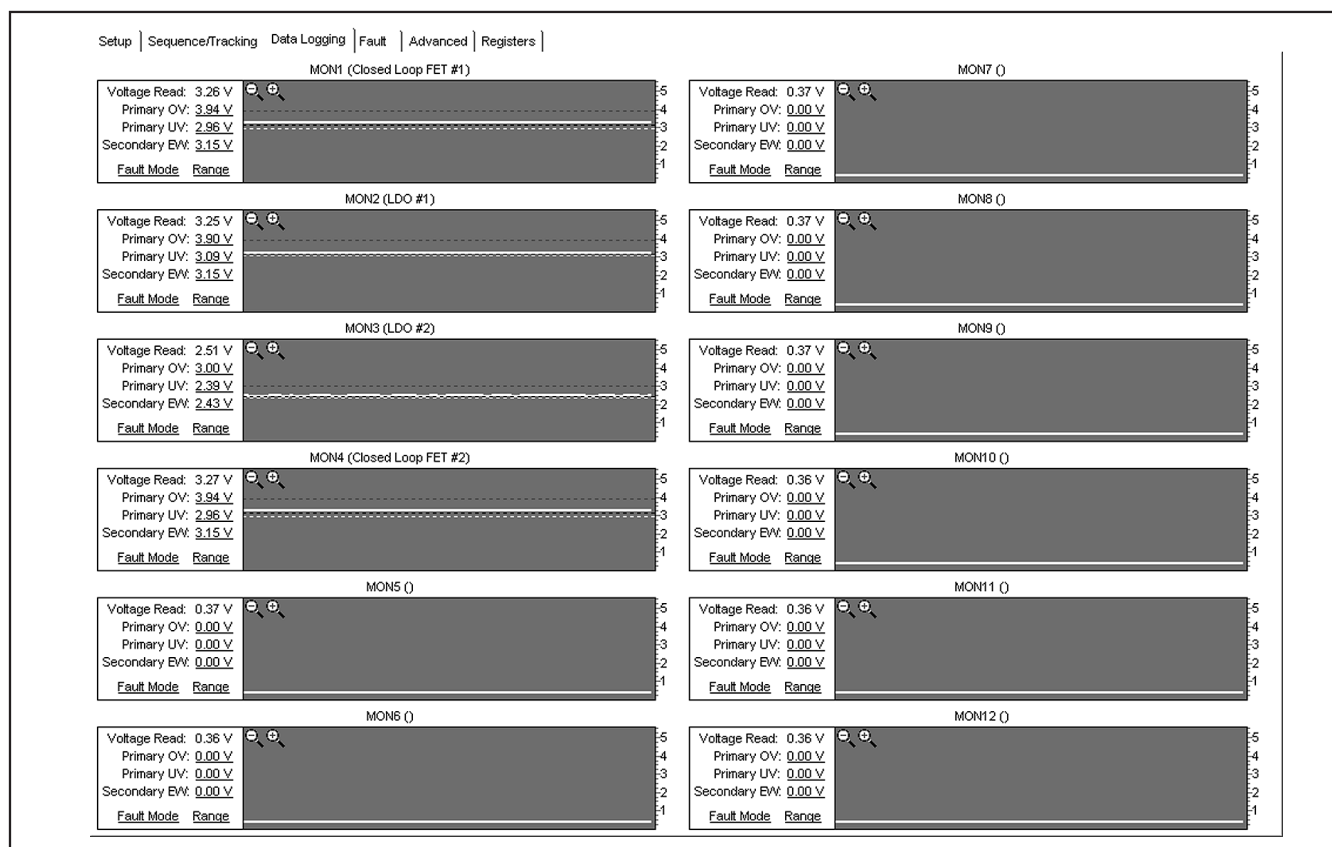

Figure 5. Data Logging Tab
The **Data Logging** tab (Figure 5) monitors the voltage at each MON_ input on chart recorder graphs. Each graph shows the MON_ input being monitored, the name of any associated power supply, the primary overvoltage (OV) and undervoltage (UV) thresholds, and the configurable early warning (EW) threshold. The dotted lines represent the voltage thresholds, and the solid green line is the monitored voltage. Items changed on this tab are immediately written to the registers of the part.